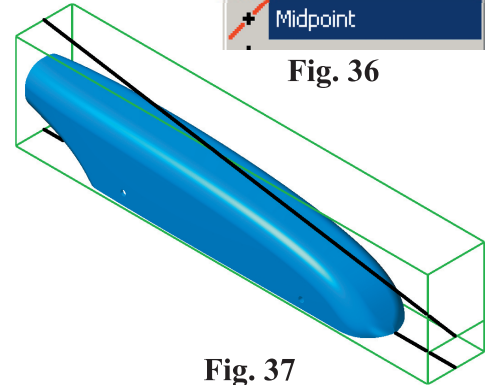

Fig. 37
Step 3. Draw the two lines as shown in Fig 37. Draw one line from **midpoint of the new line in front and the top back line of wireframe**. Keep the **Midpoint**  AutoCursor button on (depressed) to snap to midpoints and drawn second line.